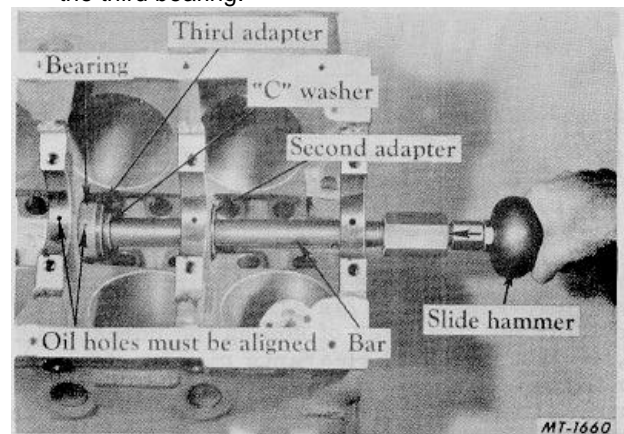

Fig. 66 Installing Third Bearing
5. Position the new bearing on the third adapter and install adapter and bar with "C" washer in front of the adapter, Fig. 66. Align the oil hole and push in the third bearing.